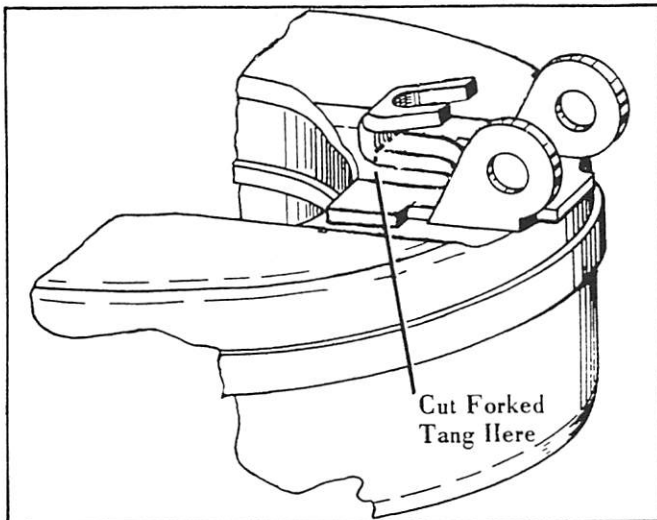

Figure 11. Location of Forked Tang
1. Cut forked tang off at lower bend, as shown in Figure 11.